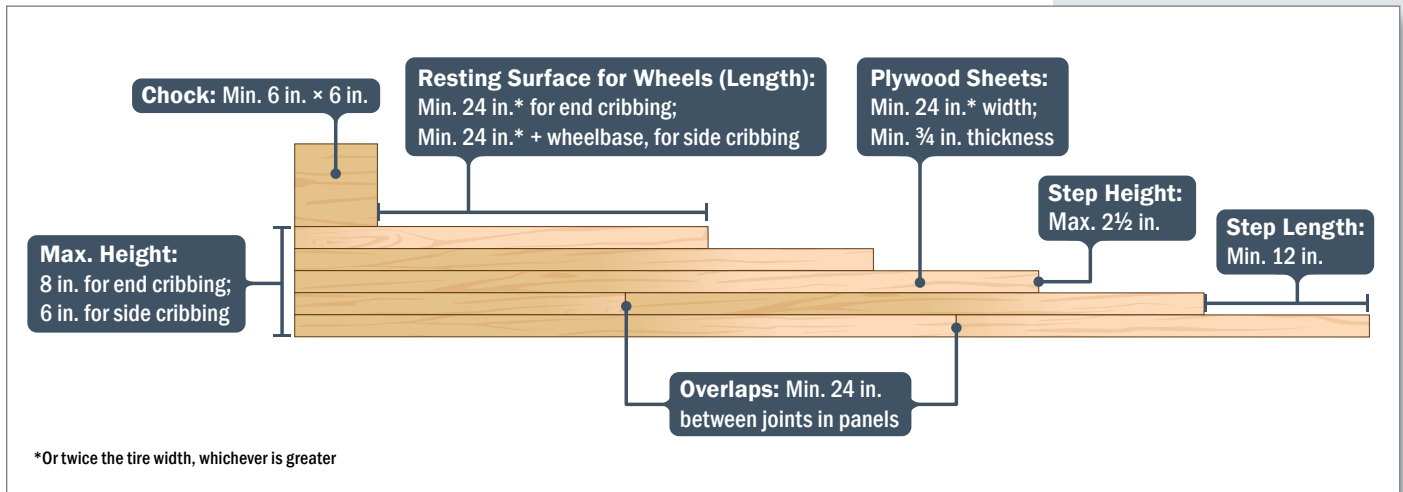

Figure 6.6. Cribbing specifications for JLG boom lifts.
- Follow the exact construction specifications provided by the manufacturer. See Figure 6.6 for JLG's specifications.